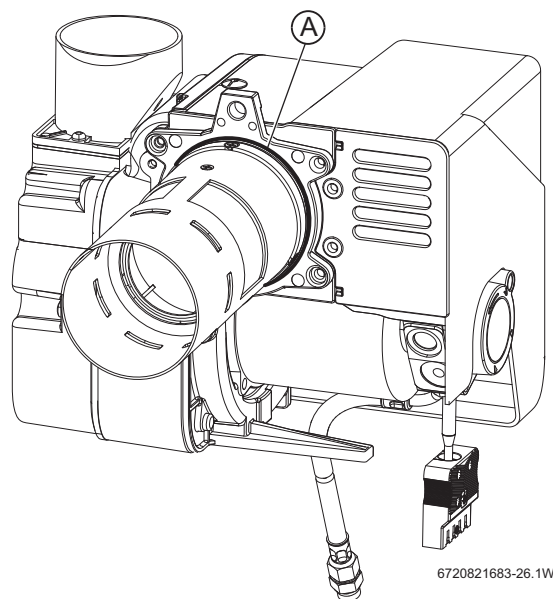

Fig. 37 12/18 Burner O-ring seal shown
- ▶ Always check that the O-ring seal (Fig 37 item A) is in good condition before fitting the burner. Replace the O-ring seal if defective.